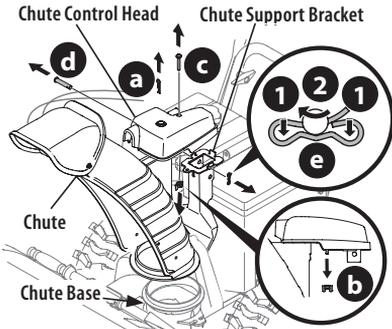

Figure 35
1. Remove cotter pin (a), wing nut (b) and hex screw (c) from chute control head. Remove clevis pin (d) and bow-tie cotter pin (e) from chute support bracket (Figure 35).